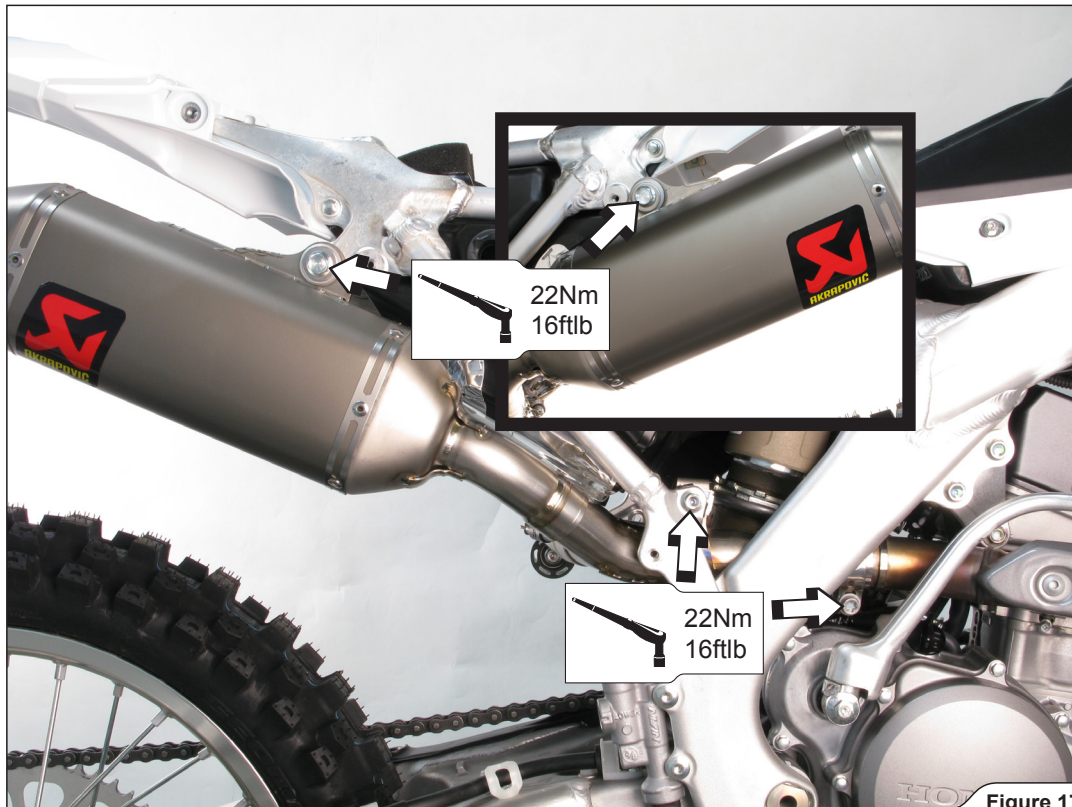

Figure 17
- Align the mufflers in respect to the motorcycle. Tighten the mufflers' bolts, link pipe's bracket bolt and clamp to the specified torque (**Figure 17**).